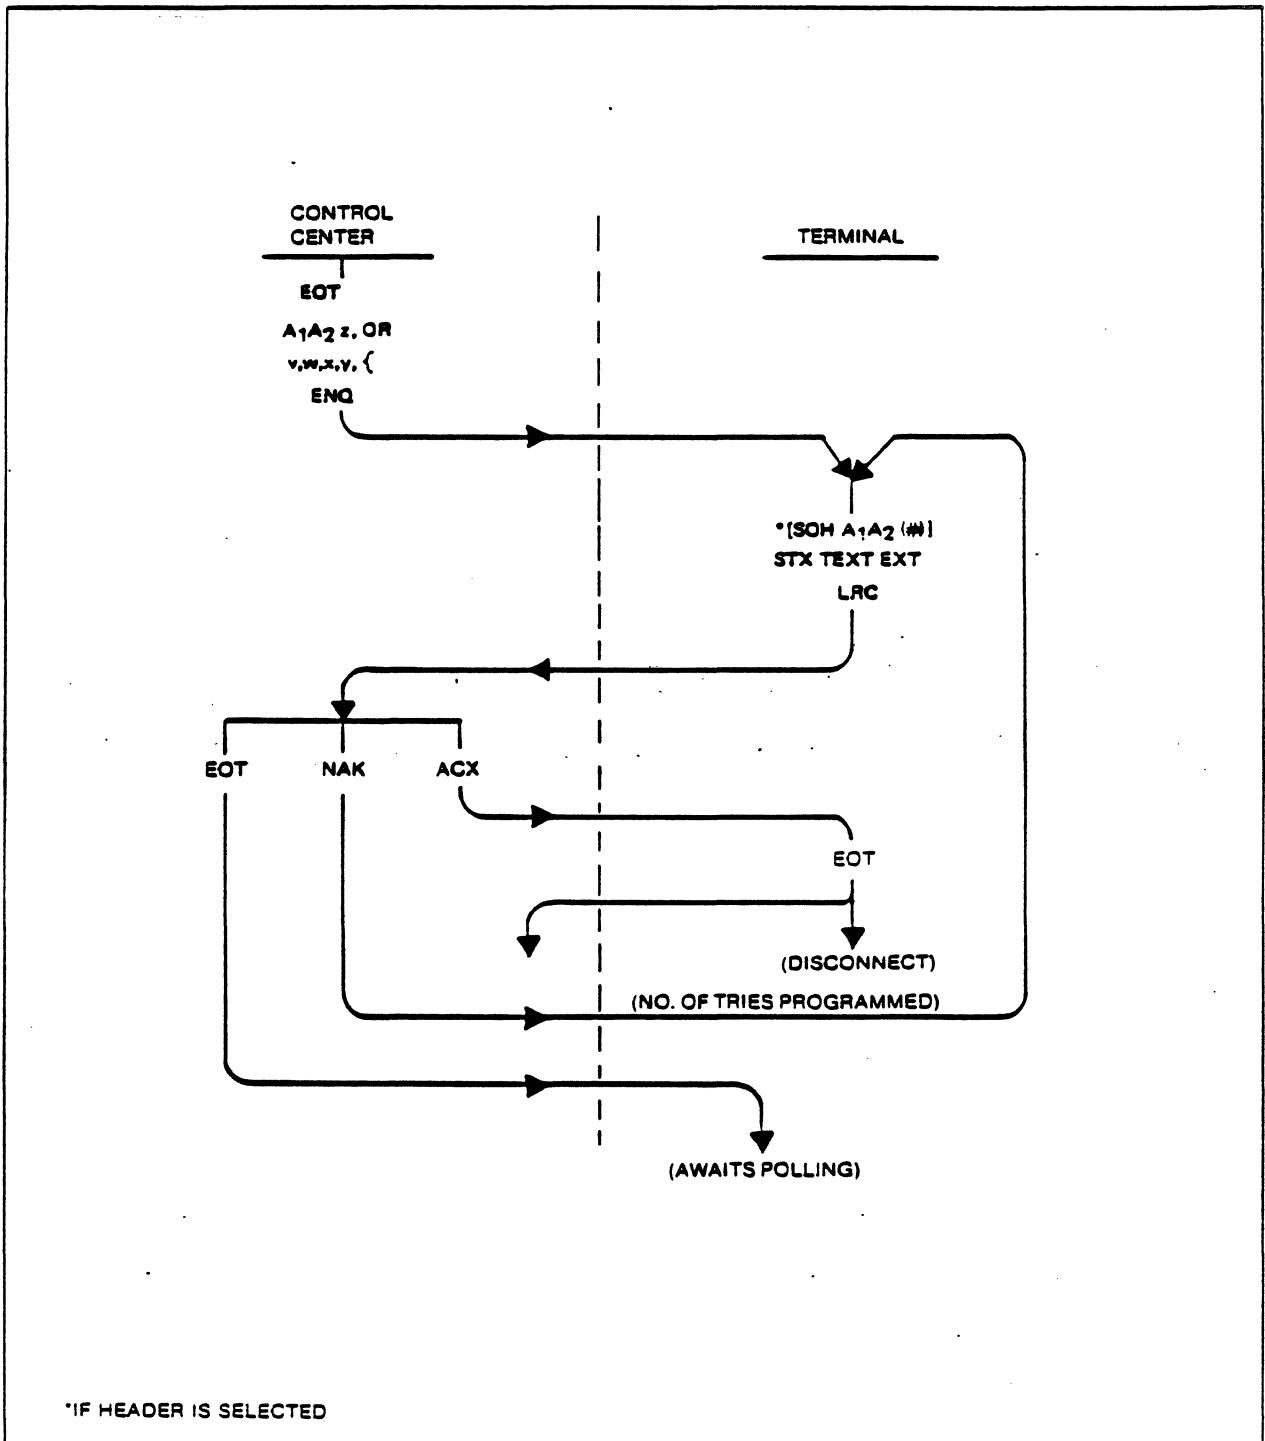

Figure 5-6. SEND Function Dialogue, Flow Diagram
5.1.10 SEND Responses (See Figure 5-6)